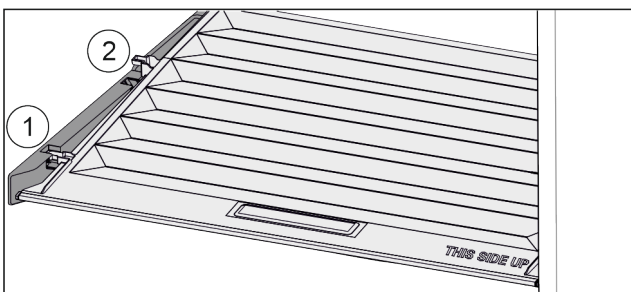

Fig. 106
- ▶ Pull the lid up at the front in the retaining parts to the opening Fig. 106 (1).
- ▶ Lift from the back and pull it up and out Fig. 106 (2).